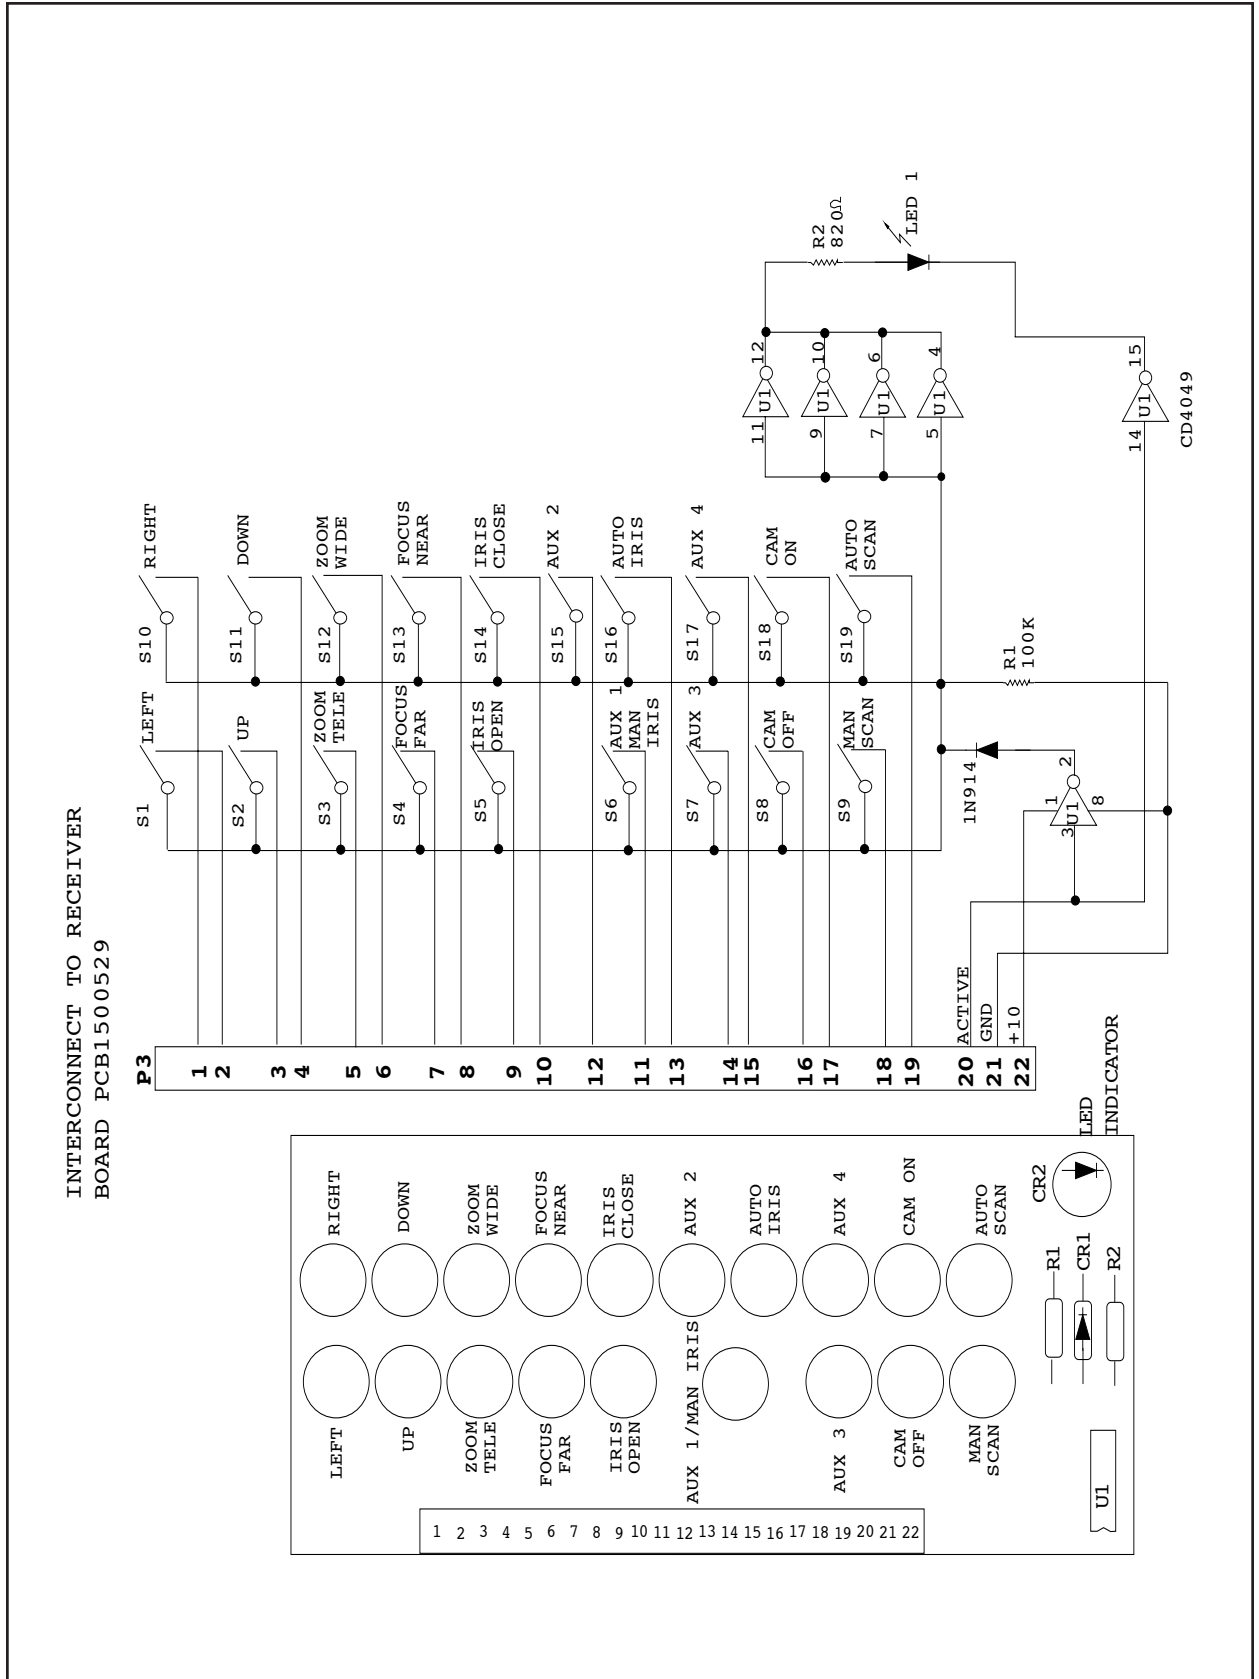

Figure 20. A9000 Wiring Schematic
1. Locate the 8-pin female connector (J2) on the motherboard and insert the 8-pin male connector (P5). See Figure 20 for wiring schematic.